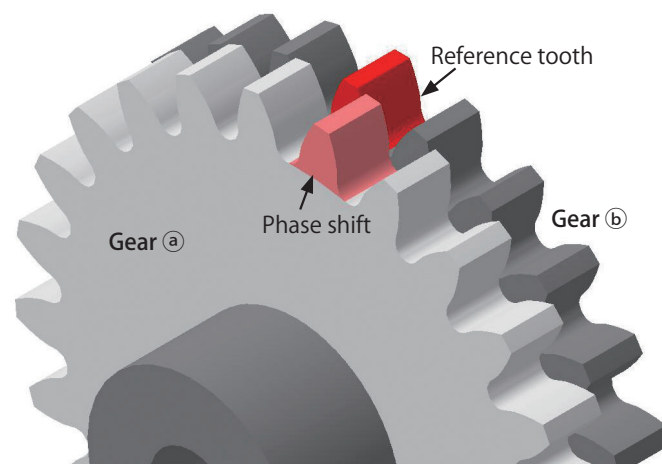

Fig. 1 Initial state
① Initial state
When the spring installed in the anti-backlash spur gear is in a free state, the teeth of gear ① and gear ② are out of phase. (Fig. 1)